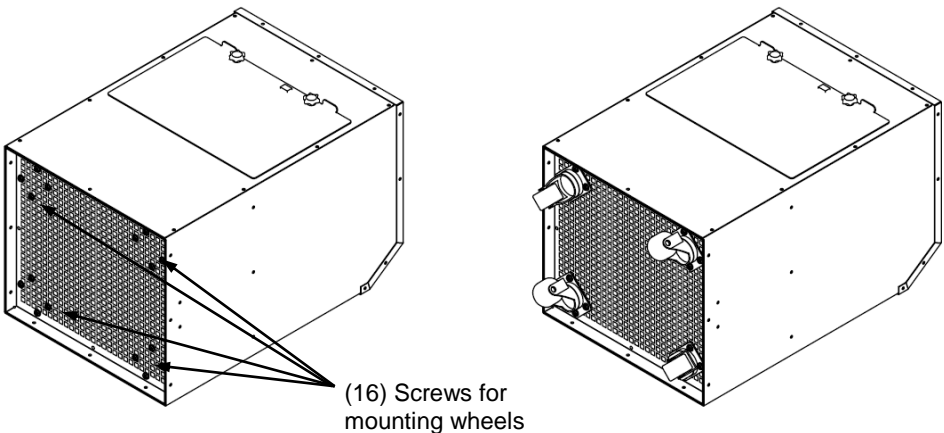

Fig. 1 – Caster Wheel Installation
- 6.1.1 Place the unit on its side on a flat surface, as shown in Fig. 1.